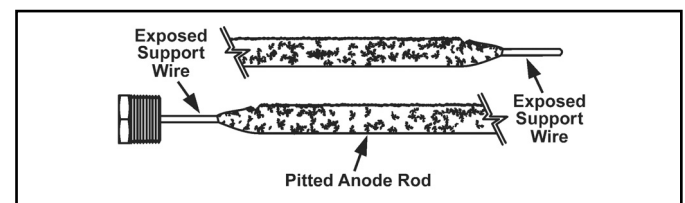

Figure 52.
- Significant sections of the support wire (approx. 1/3 or more of the anode rod’s length) are visible (see Figure 52).